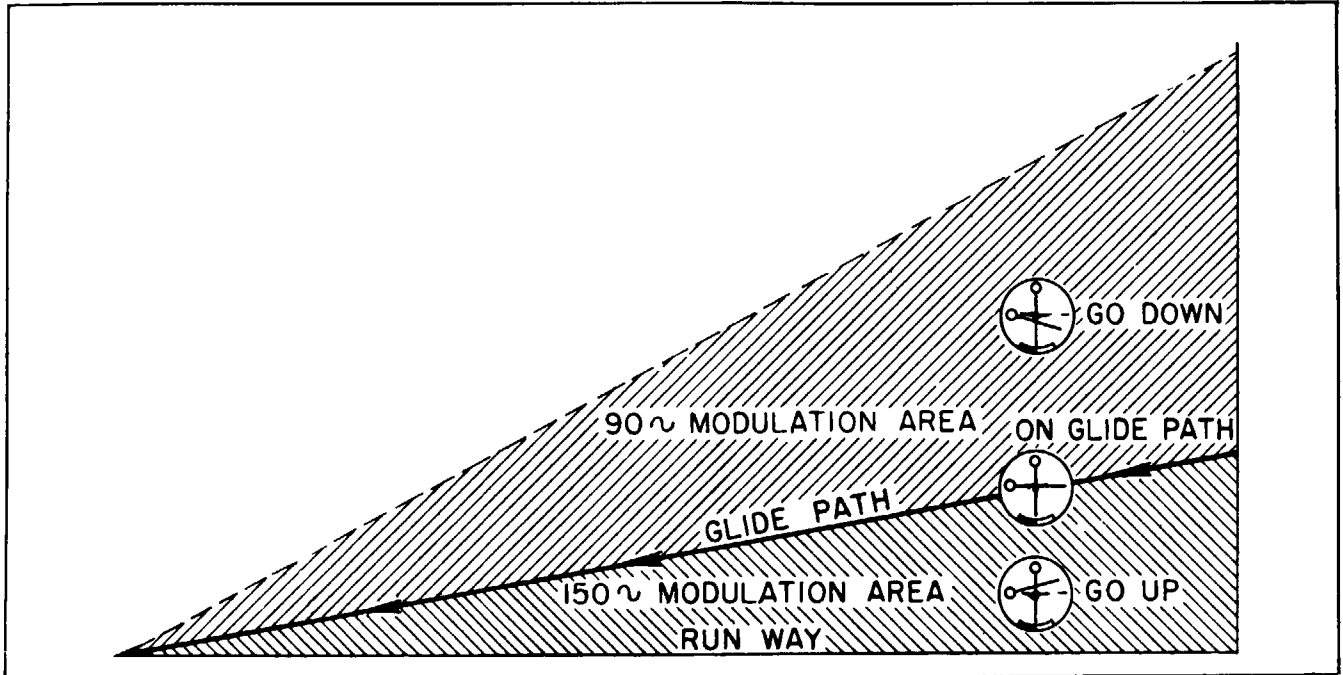

Figure 3-2. Glide Path Chart
(1) The horizontal needle on each indicator is actuated by Radio Receiver R-57/ARN-5 or R-89/ARN-5A and provides vertical guidance during landing operations.
(2) The vertical needle is for use with Radio Receiver BC-733-D for lateral guidance during instrument landing operations.
(3) The glide path is an imaginary beam created by the combined operation of the vertical and lateral guidance transmitters, which runs from the landing spot on the field, at a specified angle, up into the air as far as the radiated signals will reach. When the aircraft is headed toward the runway during a landing operation, the action of the horizontal needle is directional, that is, when the needle is above center, the aircraft must be flown up to regain the center of the glide path and vice versa.
a. Figure 3-2 shows the glide path which radiates from the glide-path transmitter located on the ground adjacent to the landing strip.
b. Also shown in figure 3-2 are the indicator's horizontal needle positions and the significance of these positions to the pilot. It is evident that the aircraft's heading should follow the direction indicated by the needle.